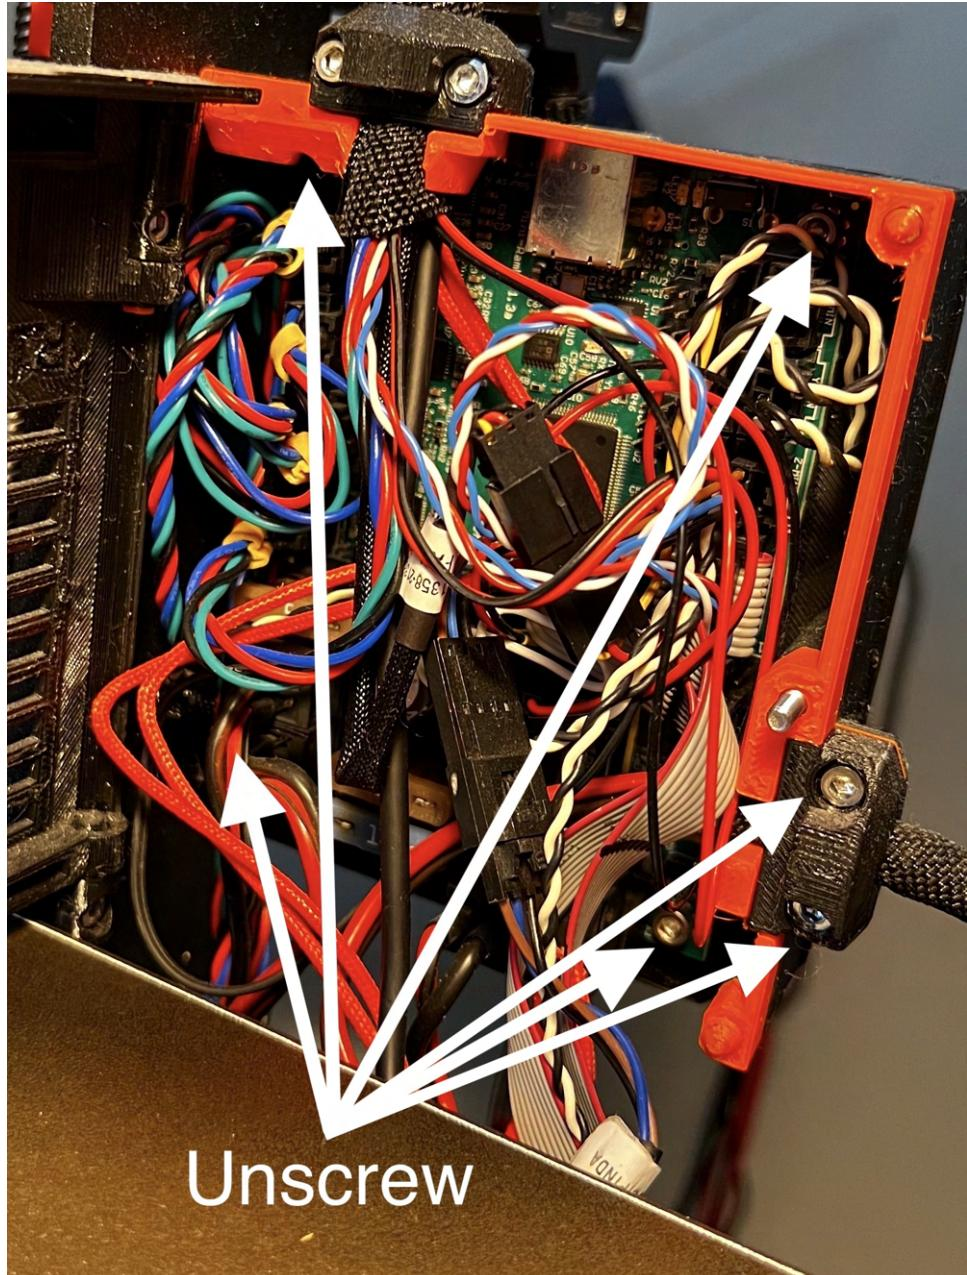
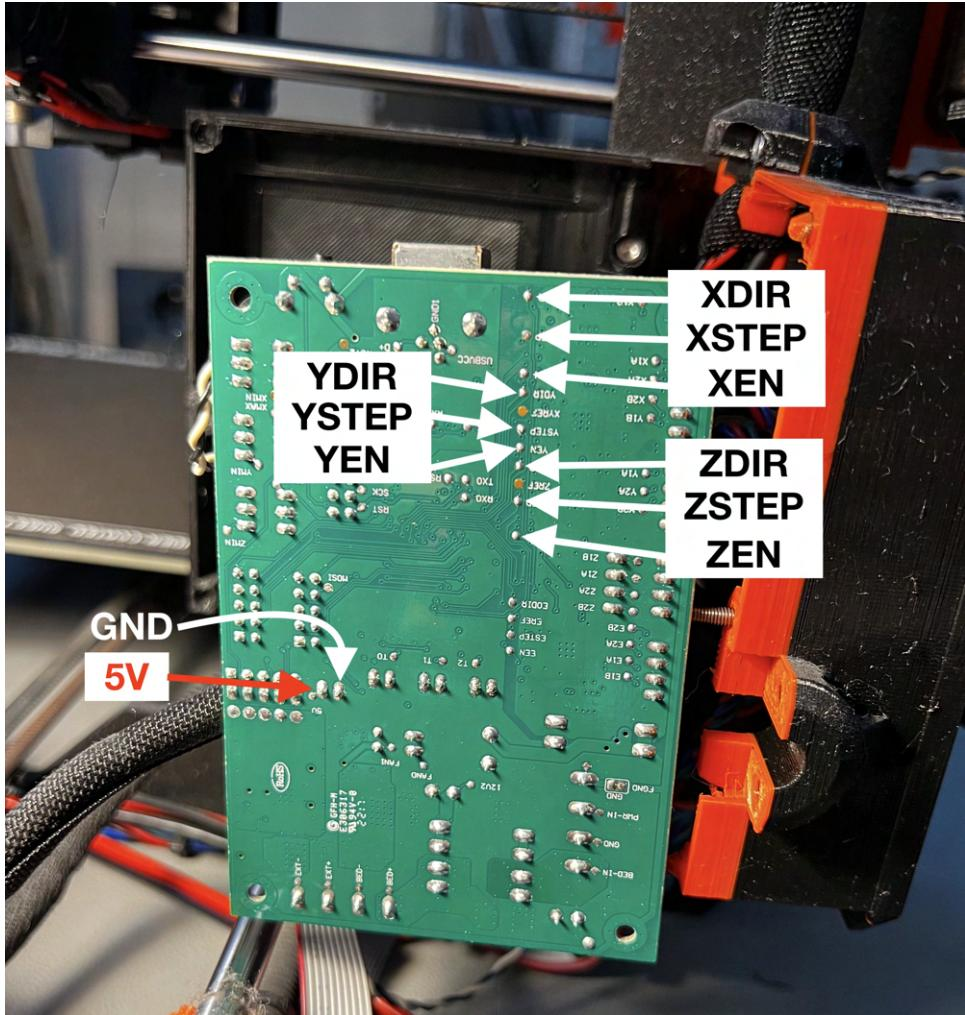
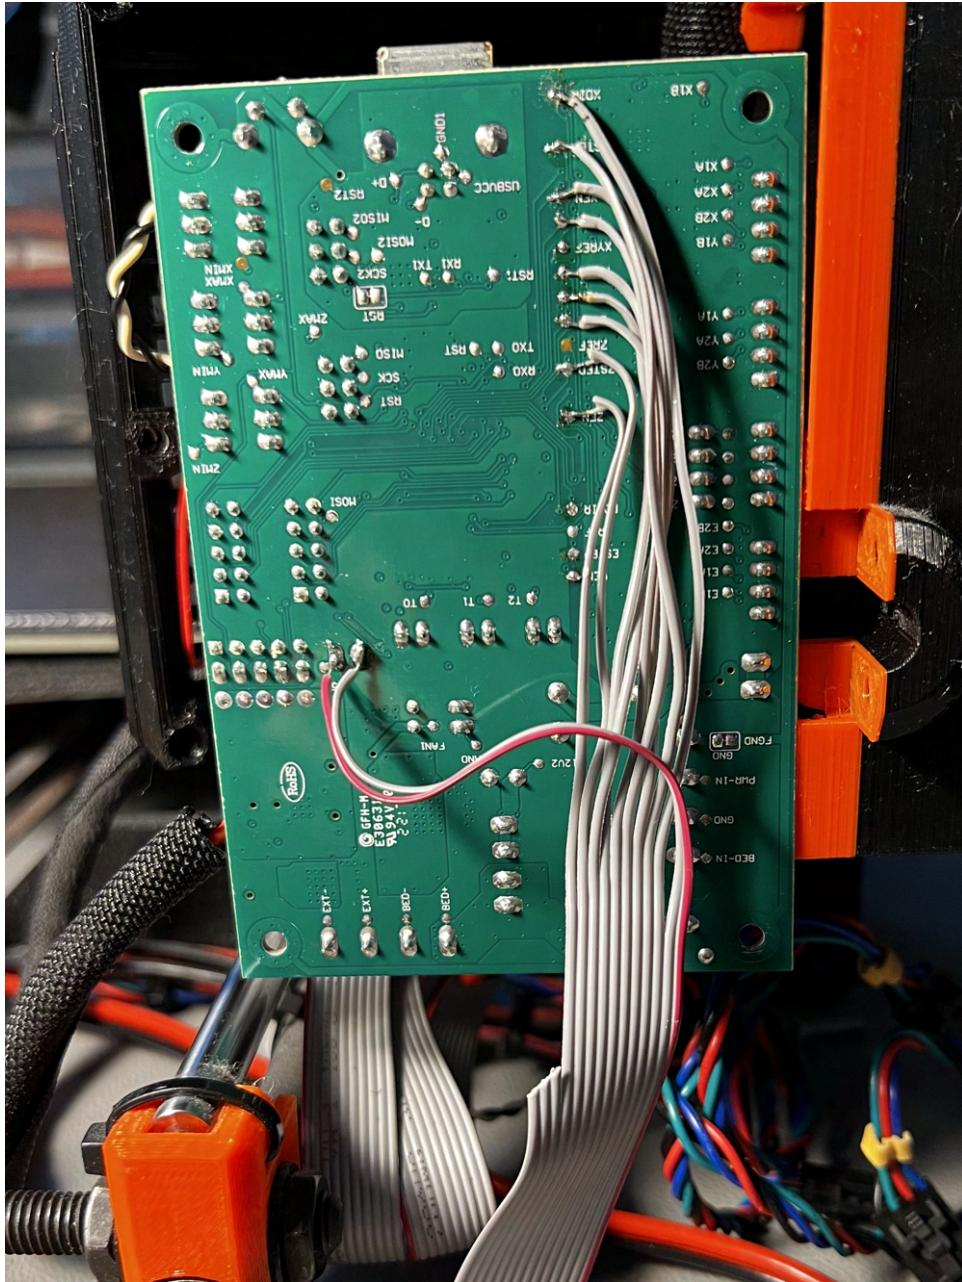

Figure 5: Front side Rambo control board.
Figure 6: Recommended position for Rambo control board to solder data pins.
Figure 7: Data pins soldered to Rambo, pins 12, 13 and 14 left floating in this installation.
Moving on to the main board, I suggest that you only unscrew the board from the Rambo base while leaving all the wires connected. While you are free to approach this step as you see fit, I have found that this method makes soldering the data pins easiest. Begin by unscrewing the screw on the Rambo cover and opening it. Unscrew the screws marked in Figure 5, and move the Rambo board to the position shown in Figure 6. This will provide easy access to the pads that need to be soldered to the data pins on the ribbon cable.
**IMPORTANT:** Before beginning with the soldering, it's important to note that the pads' names are marked on the Rambo board, as shown in Figure 6. It's crucial to watch out for the REF pins located close to the other pins and make sure you don't accidentally solder a data pin to one of those. Additionally, the data cable's orientation should be such that the red cable is located towards the right, ensuring the correct orientation of the connector to the upgrade board, as shown in Figure 7.
After you have finished soldering to data pins the result should look like Figure 7. You can use some silicone or similar to glue the cables in place.